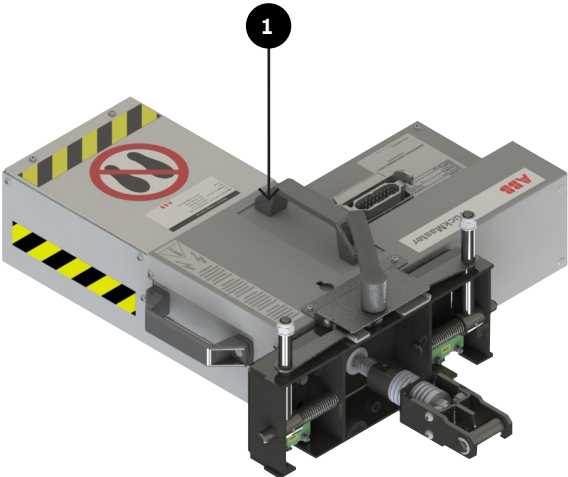

Fig. 3
To lift and handle the motorbox device proceed as follows (fig. 3):
- insert the hooks in the lifting handles fig. 3 item 1 and lift;